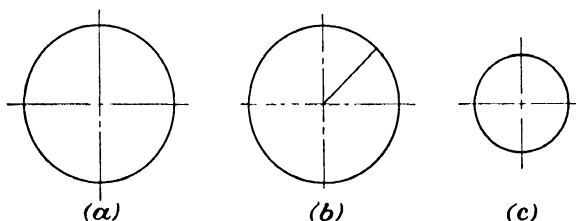

Fig. 59.
4. Measure the diameter of the circles in Fig. 59 to the nearest 32nd, and find the circumference of each.